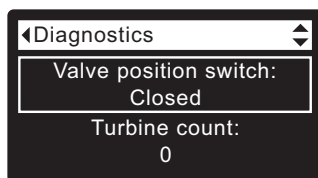

FIG. 108
2. Press the DOWN (▼) button to scroll through the list until **Valve position switch** is displayed (See Figure 108).